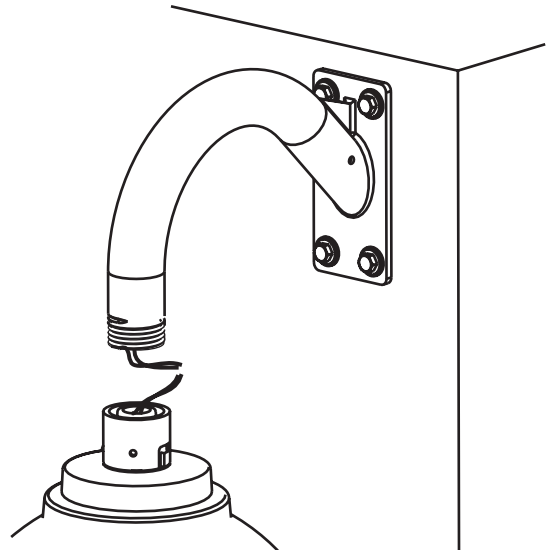

Figure 4
5. Make all wiring connections to the housing, following instructions provided with the housing (Figure 4).